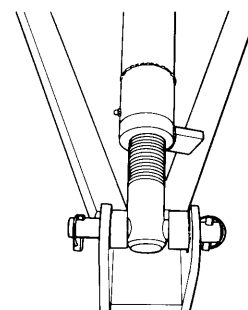

Figure 11
- 2/ Attach your Agrowdrill to the drawbar and set the adjustable top link (see figure 11) so that the machine is approximately level.